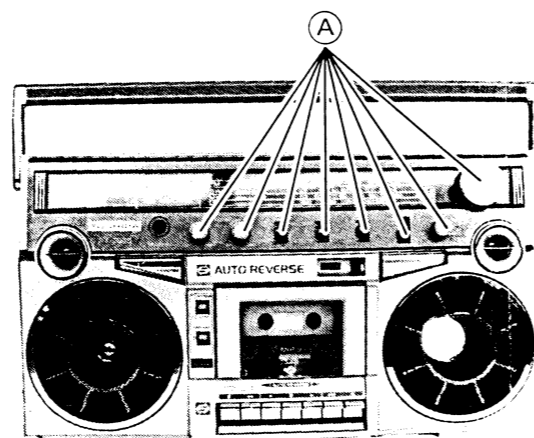

Figure 3.
1. Remove 8 Knobs ① (Tuning, Fine Tuning, Band, Function, Tape Selector, Mode/Beat, Volume and Tone). Figure 3.